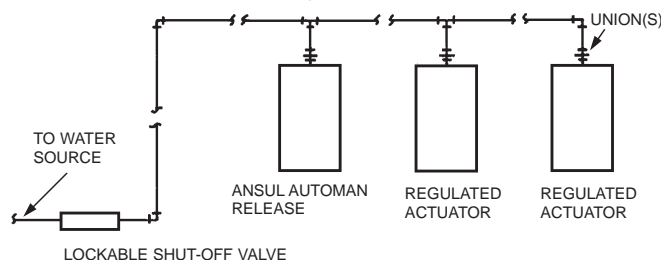

FIGURE 6
2. A maximum of three PIRANHA water flow valves can be connected to a common waterline when all the valves are actuated simultaneously. See Figure 6.